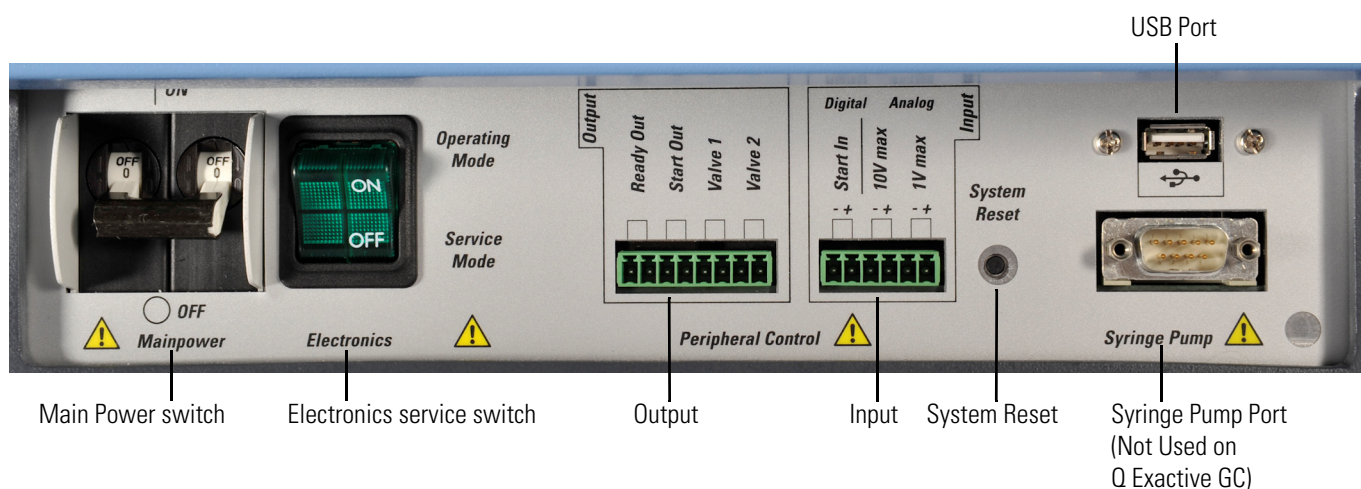

Figure 3-5. Power panel
The *main power circuit breaker switch* (labeled Main Power) is located on the power panel at the left side of the mass spectrometer. See Figure 3-5. In the Off (O) position, the circuit breaker removes all power to the mass spectrometer, including the vacuum pumps. In the On (I) position, power is supplied to the mass spectrometer. In the standard operational mode, the circuit breaker is kept in the On (I) position.
The *electronics service switch* is located on the power panel. See Figure 3-5. In the Service Mode position, the switch removes power to all components of the mass spectrometer except the vacuum system. In the Operating Mode position, power is supplied to all components of the mass spectrometer.